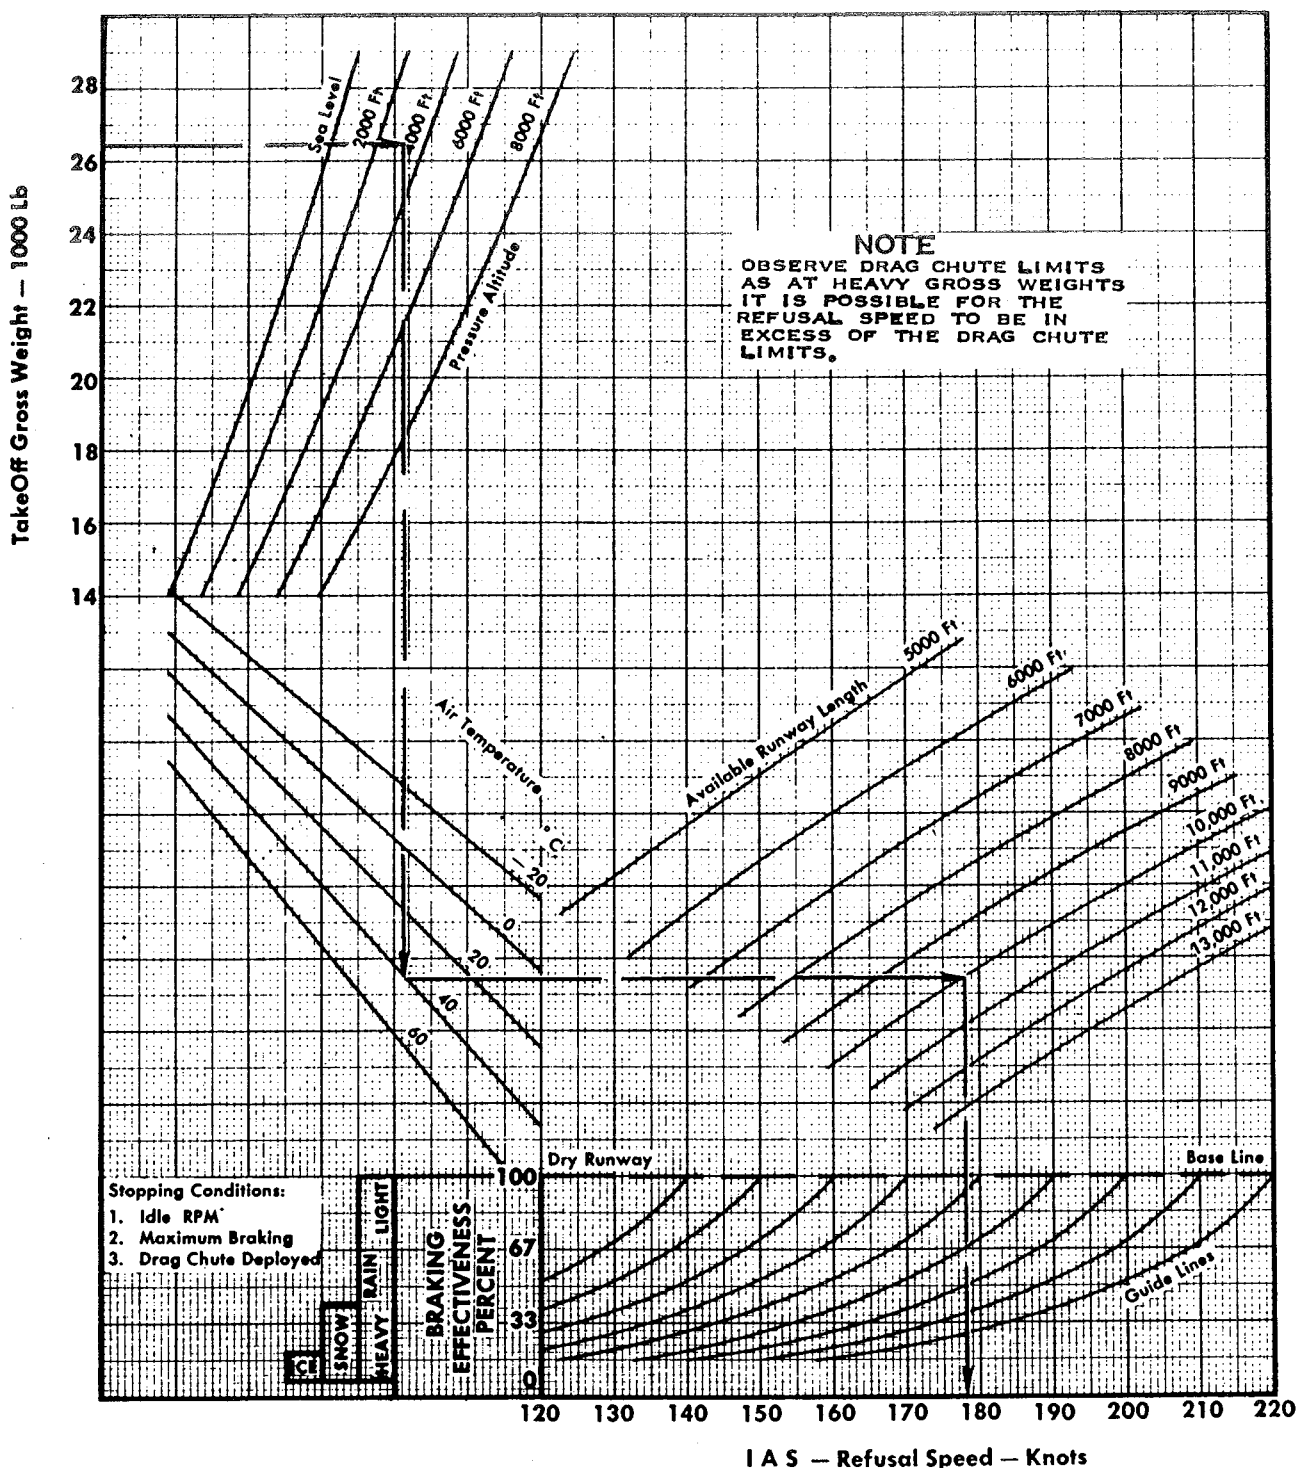

Figure A2-6
- e. The refusal speed, from Figure A2-6 is 182 knots.